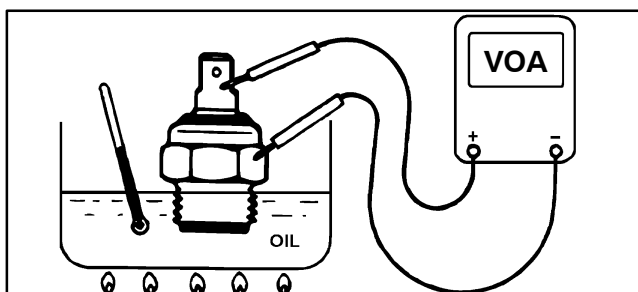

Figure 28
2. Put switch in a container of oil with a thermometer and slowly heat the oil (Fig. 28).